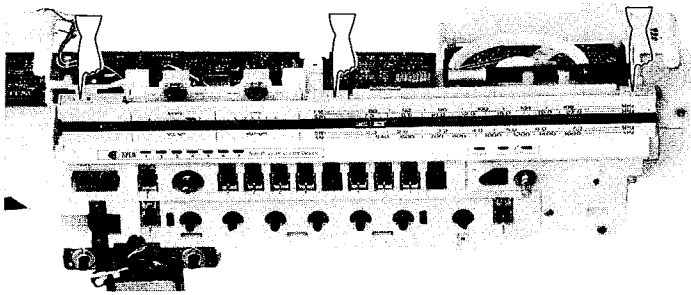

Figure 7-2
2. Loosen three tabs securing the dial scale plate, and detach the plate while shifting it down. See Fig. 7-2.